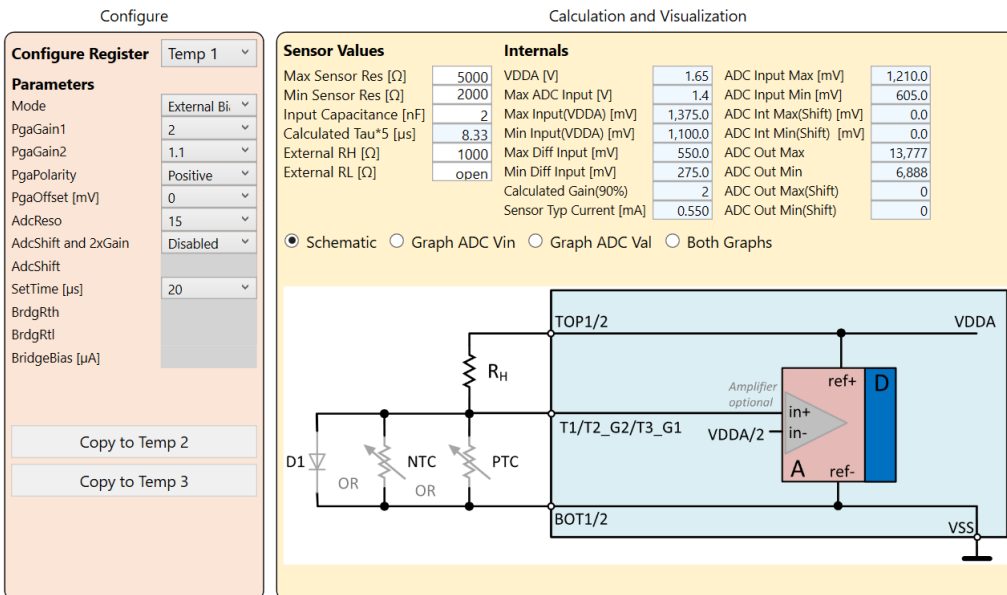

Figure 57. Mode Source External Bias High
- The diode/NTC/PTC transducer is supplied through an external resistor tied to VSS (GND) when the “External RH” (selectable in the Sensor Values section) is not set to “open” or “0” (Figure 57).